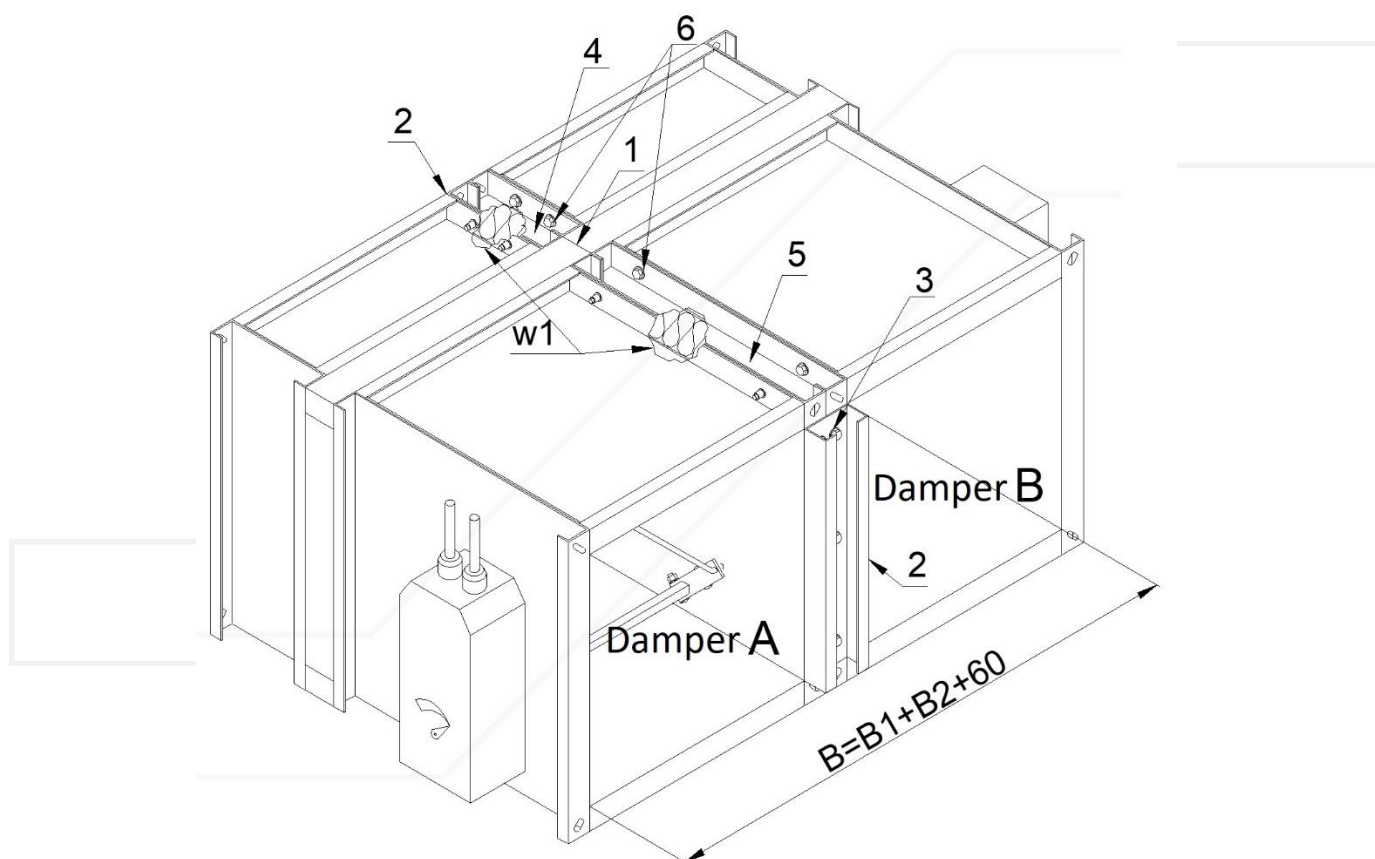

Figure 15. Arrangement 3 – horizontal battery consisting of two fire dampers KWP
Installation of KWP fire dampers batteries in rigid wall compartment (Figure 15 to 18)
- For vertical battery consisting of two KWP fire dampers: $(B1+120) \times (H1+H2+180)$ (Figure 15),